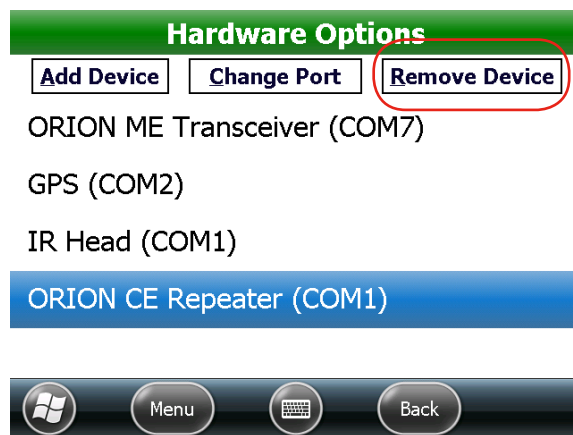

Figure 50: Select device and tap **Remove Device**
2. Tap **Remove Device** (Figure 50).